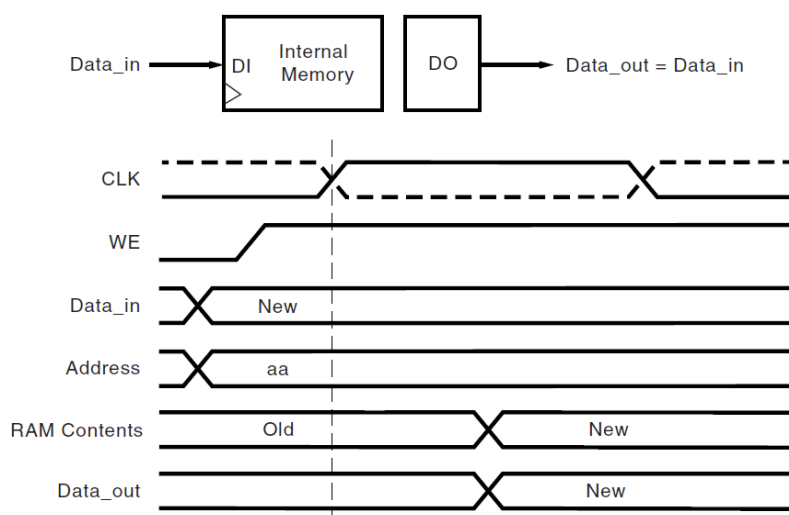

Figure 24 WRITE\_FIRST Mode
The WRITE\_FIRST option is a transparent mode. The same clock edge that writes the data input (DI) into the memory also transfers DI into the output registers DO as shown in Figure 24.